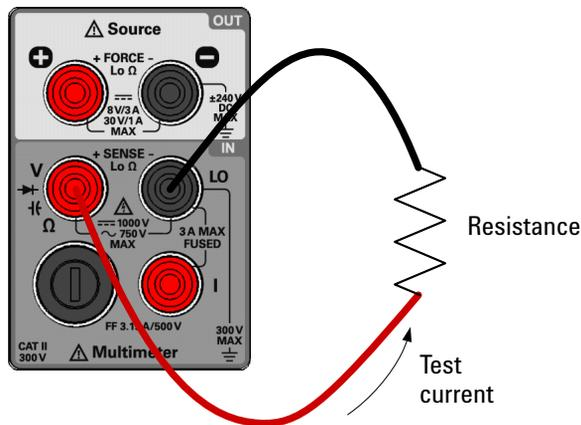

Figure 2-3 Terminal connections for 2-wire resistance measurements
- 2 Connect the red and black test leads to input terminals Ω (red) and **LO** (black) respectively as shown in **Figure 2-3**.